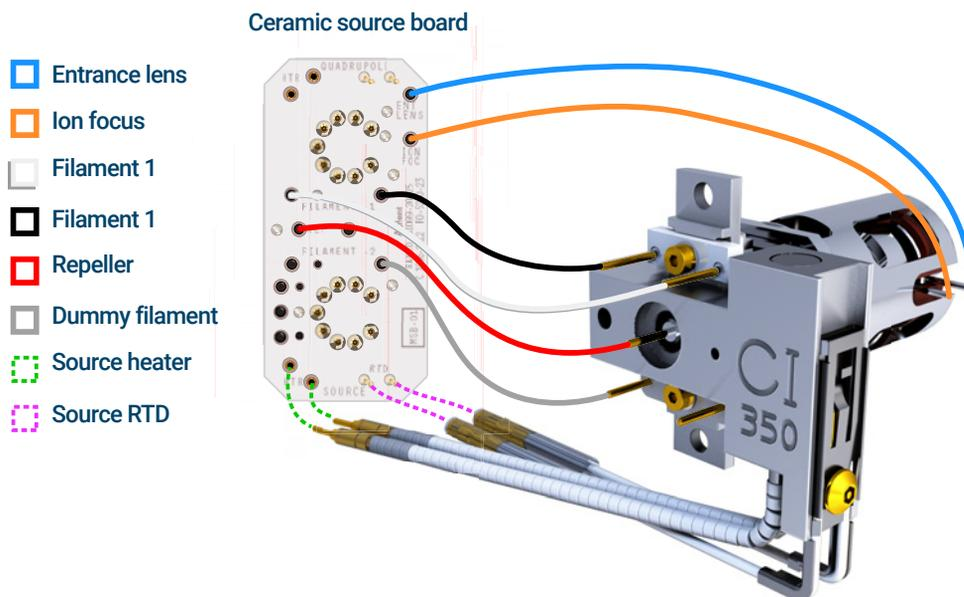

Figure 83. Wiring between the CSB and the source
- 1 Use tweezers or pliers to connect or disconnect the ceramic board wire leads (red, white, black, and gray) at the source connectors. (See **Figure 83**.)